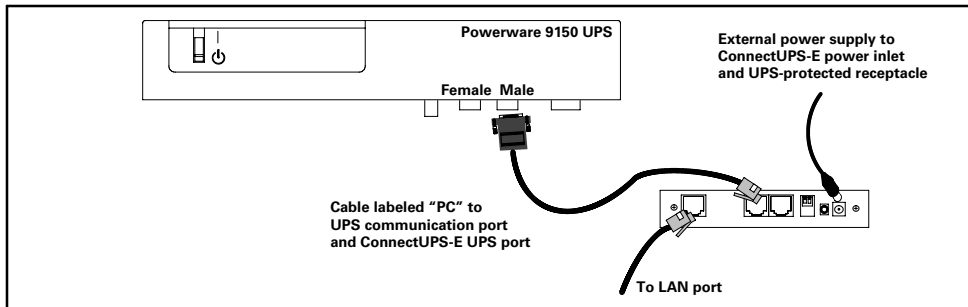

Figure 8. Alternate Installation with a Powerware 9150 UPS
4. **If the female port is not available**, use the supplied serial cable (labeled “PC”) to connect the UPS port on the ConnectUPS-E to the male, 9-pin, RS-232 port on the UPS (see Figure 8).